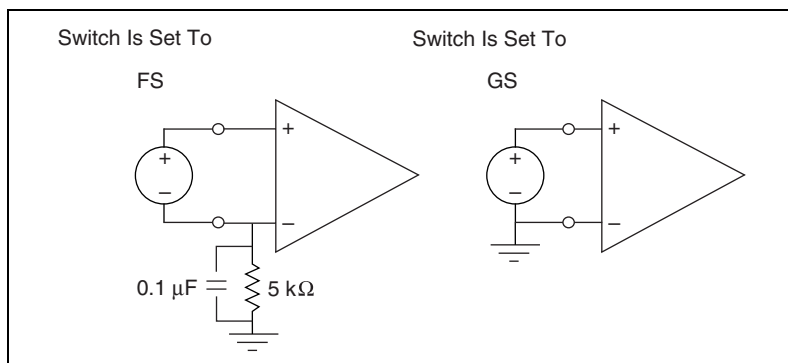

Figure 4-3. Floating Source and Grounded Source Connections
Each analog input for the DAQPad-6052E with BNCs has a switch that you set based on whether the BNC is connected to a floating source (FS) or a grounded source (GS). Figure 4-3 shows how setting the switch to FS connects the negative terminal of the differential input to ground through a $5\text{ k}\Omega$ resistor in parallel with $0.1\text{ }\mu\text{F}$ resistor. If you are using a differential channel connected to a floating source, set the switch to FS. Set the switch to GS to allow both positive and negative terminals to float. If you are using a single-ended channel or using a differential channel connected to a grounded source, set the switch to GS. Refer to the Types of Signal Sources section for more information on single-ended channels, differential channels, floating sources, and grounded sources.